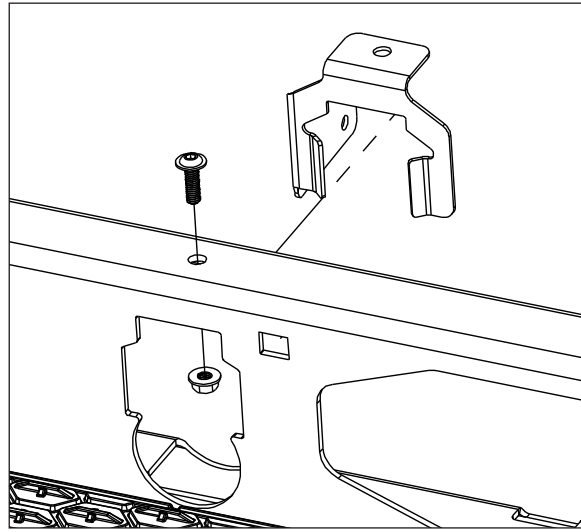

Figure 19
3. Install AEV trailer connector bracket onto top edge of the Center Section using one of the supplied M6x20 button head bolts, washers, and nut (fig. 19).